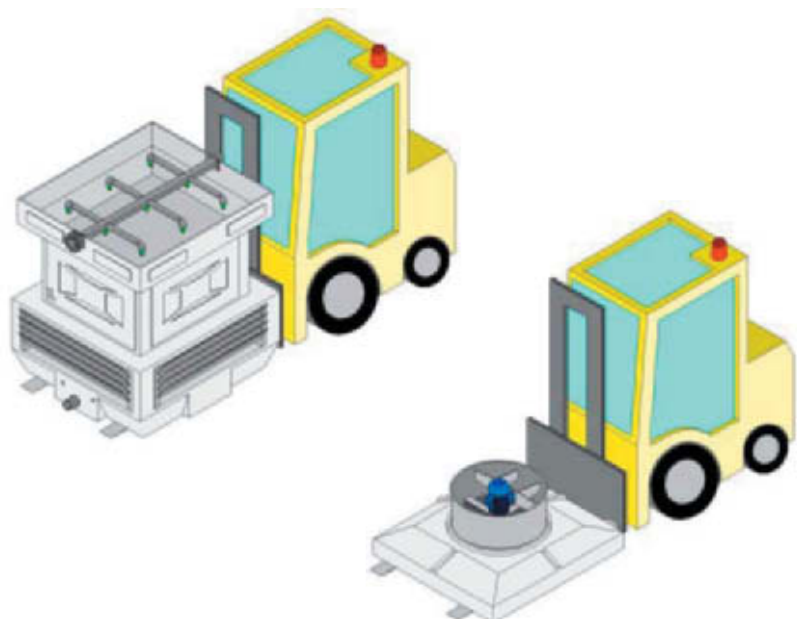

fig.03
- Centring is along the line of the item's centre of gravity (Fig. 03).
- The ends of the forks protruded from the piece (Fig. 03).